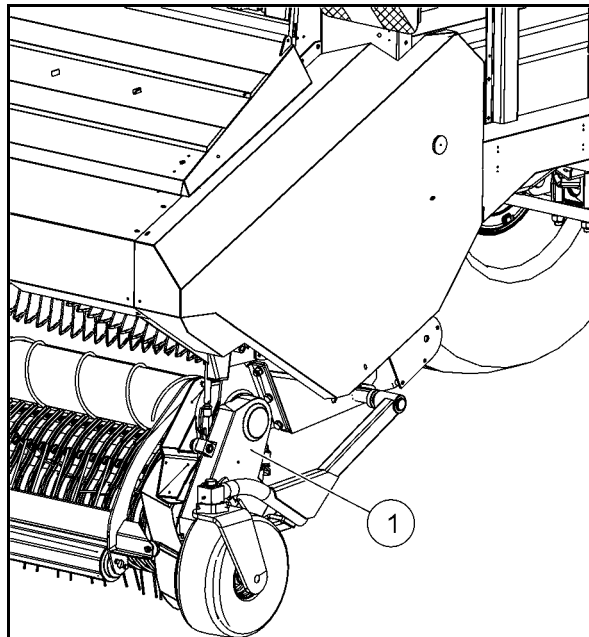

Fig. 113
5. Fix the protective casing of the pick-up (Fig. 113/1) to the forage trailer by means of the two screws.
10. Unscrew and remove the two screws from the protective casing of the pick-up (Fig. 113/1).
11. Remove the protective casing of the pick-up (Fig. 113/1).
12. Retighten the groove nut (2) with the exact number of turns made for unscrewing (torque of the friction clutch must be between 900 and 1000 Nm).
13. Lock the groove nut (2).
14. Fix the protective casing of the pick-up (Fig. 113/1) to the forage trailer by means of the two screws.